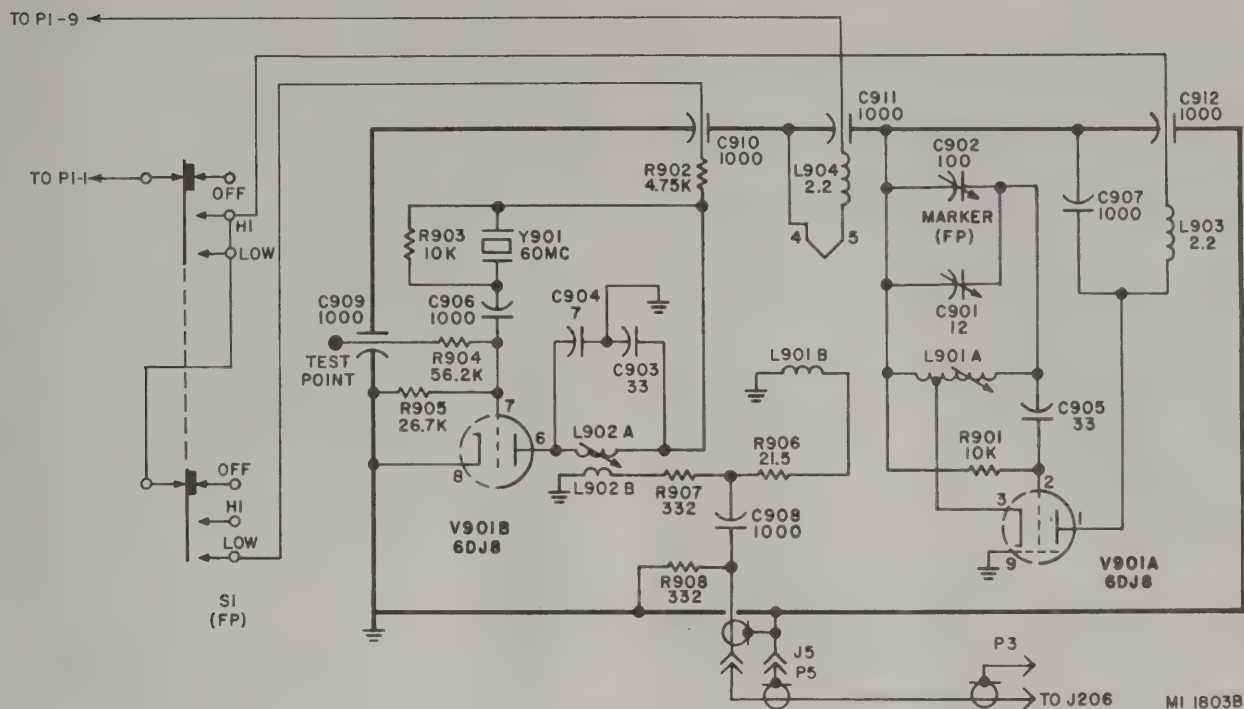

Figure 4-9. Variable marker oscillator.
(4) **Variable marker.** The S-100B sweep oscillator generates the variable marker (fig. 4-9) when VARIABLE-OFF-SIZE switch S509 is actuated and OFF-HI-LOW switch S1 is set to either HI or LOW. V901A is a series-fed Hartley oscillator that operates in the range of 50 to 125 MHz. L901A, C901, and C902 (MARKER) comprise the tank circuit. C905 and R901 provide grid leak bias for V901A. L903 and C907 provide RF by-pass and decoupling. Radio frequency from V901A is link-coupled from L901A by L901B through R906 and is coupled by C908 to C202, R201, and C205 in the junction network. It is further routed as explained in paragraph 4-8.